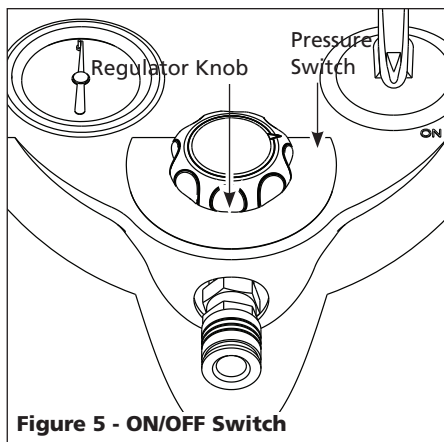

Figure 5 - ON/OFF Switch
• **Pressure Switch** - ON/OFF Switch (Figure 5) - In the ON position, the compressor shuts off automatically when tank pressure reaches the maximum preset pressure. In the OFF position, the compressor will not operate. This switch should be in the OFF position when connecting or disconnecting the power cord from the electrical outlet or when changing air tools.